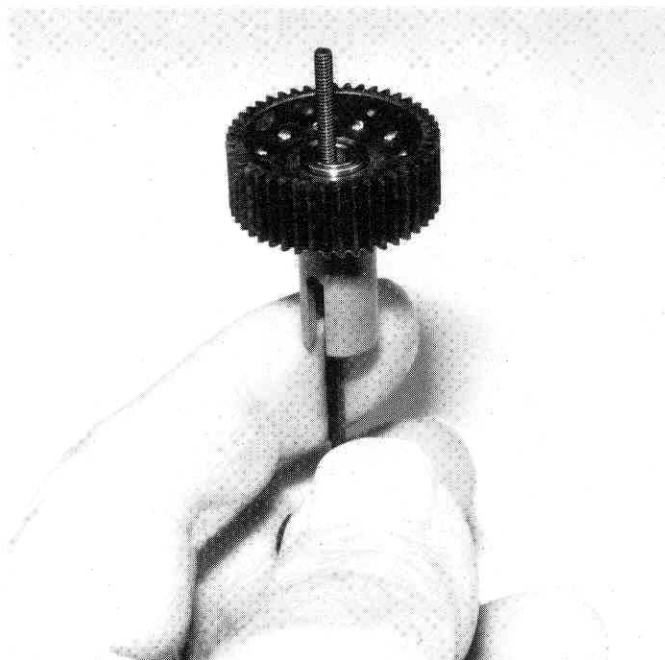

Fig. 42
□ **Fig. 42** Turn the assembly upright. Make sure the #6579 drive ring is still ON and centered. Slip the #6580 diff gear with bushing onto the bolt as shown.